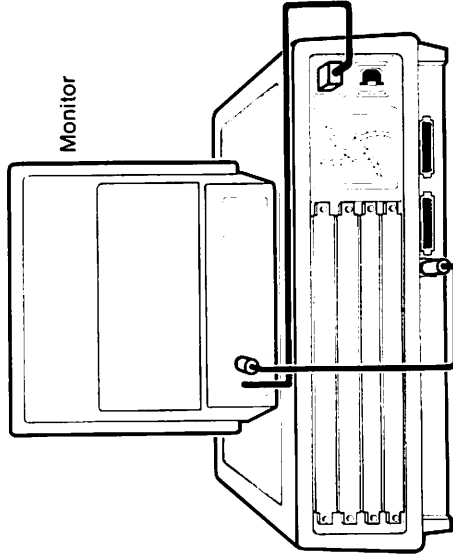

Figure 2. Tandy 2000 System
3. Disconnect and remove the display monitor from the system and set it aside (see Figure 2).